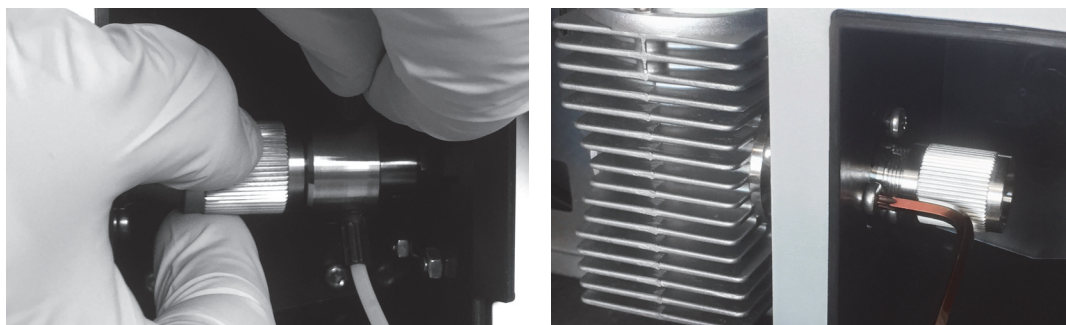

Figure 5-17. Loosen the Retaining Nut (Left) and the Locking Screws (Right)
4. Remove the flow cell; hold the flow cell with one hand while loosening the retaining nut (see Figure 5-17).
5. Loosen the three screws locking the UV lamp in a vertical position using an angled Torx 20 screwdriver; see Figure 5-17.